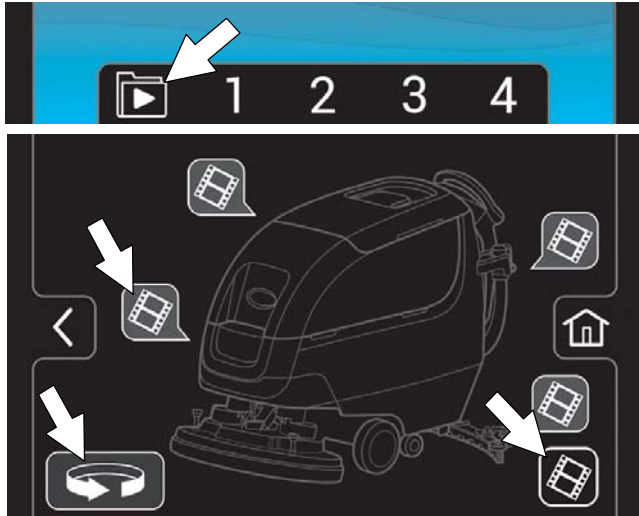

FIG. 61
Press the video tutorial button to access the video tutorial screen (Figure 61). It includes videos on how to perform specific operation and maintenance procedures. Press the video buttons to start video. Press the rotate button for additional videos. The lower right video button provides a list of additional tutorial videos.
**Video help** - Use to view specific operation and maintenance procedures. See Figure 61.